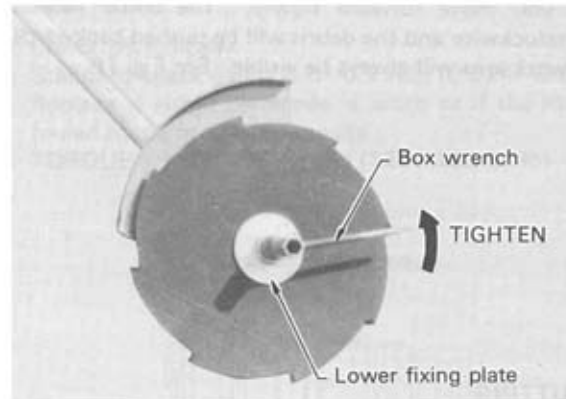

Fig. 14
5. Fit the lower fixing plate and tighten the locking nut using the box wrench supplied in the tool kit. See Fig. 14
- The drive shaft is fitted with left hand threads, therefore turn counterclockwise to tighten as illustrated. See Fig. 14